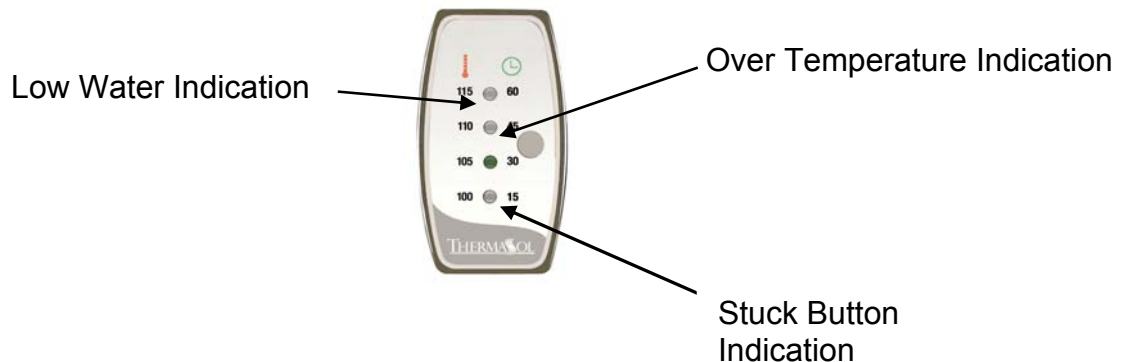

Figure 7
5. Diagnostic Feature. The TT control has a unique diagnostic feature. If there is a malfunction within the unit, it will alert you. The red 115° LED will flash when the low water sensor is activated, the red 110° LED will flash if the shower area exceeds 135°F, and the red 100° LED will flash if the control button becomes stuck. If any of these diagnostics happen the unit will shut down and lock out all user interfaces. To reset the unit, power will need to be reset at the breaker. Contact a Steam Services technician at **(800) 776-0711** for further trouble shooting steps. (Figure 7)